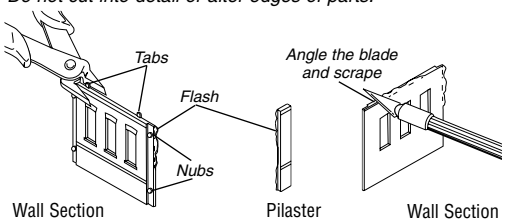
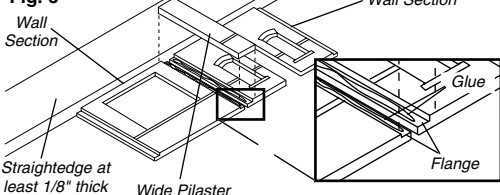

Fig. 5
Fig. 6 GOOD FIT
2. Join wall sections horizontally by gluing backs of wide pilasters to flanges of adjacent wall sections (wall sections face up). Use straightedge as guide along top edges of parts being joined. It should be at least 1/8-inch thick so pilasters won't slip over it (Fig. 5). Apply glue along outer edge of flanges so it won't be squeezed onto brick detail of wall sections or pilaster (Fig. 5 inset). Fit pilasters snugly into recessed area between wall sections (Fig. 6).